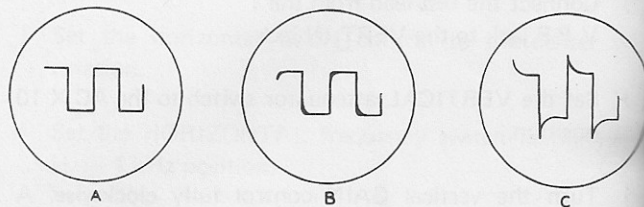

Figure 5
Figure 5 shows the waveforms for the correct amount of circuit compensation, too little compensation, and too much compensation respectively. When making the following adjustments, the waveform should look like Part A of Figure 5.
- () Adjust the X10 trimmer capacitor until the waveform appears as shown in Part A of Figure 5.
- () Adjust the X100 trimmer capacitor until the waveform appears as shown in Part A of Figure 5.
- () Adjust the VERTICAL COMPENSATION capacitor (shown on Page 63) until the waveform appears as shown in Part A of Figure 5.